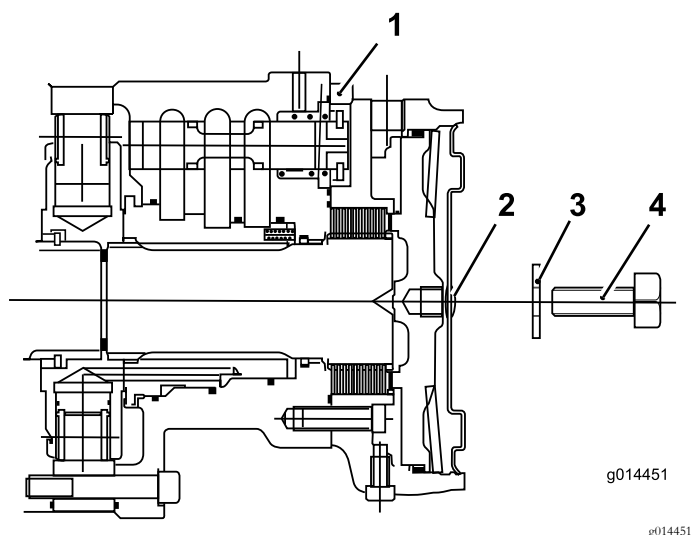

Figure 47
- C. Assemble the hex plug into the motor end plate (Figure 47).